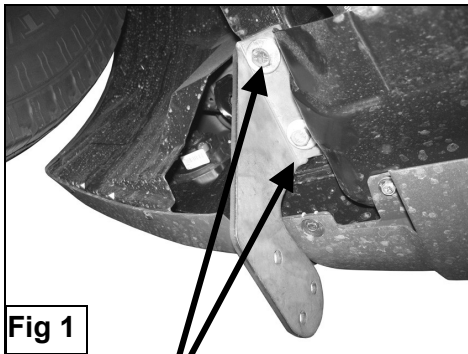

Fig 1
3. Locate the driver side Mounting Bracket and partially hang it from factory threaded holes in the frame rail using the included (2) 12-1.25 x 40mm Hex Head Bolts (fine thread), and (2) 12mm Flat Washers (**Figure 1**). Repeat this step for passenger side.